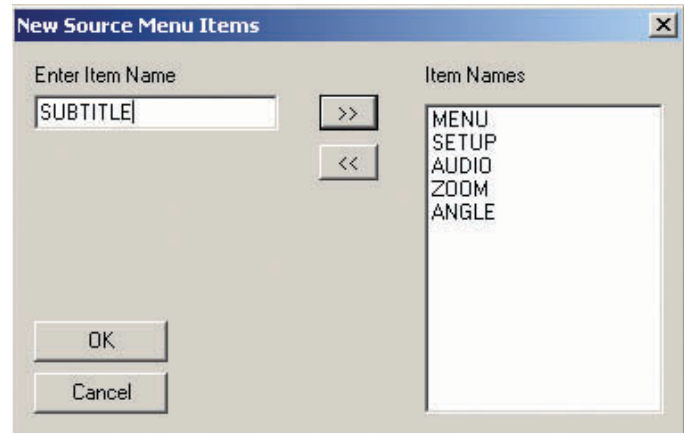

Figure 29
10. If adding **multiple Virtual Buttons**, right click inside the Virtual Button List Window, highlight and left click **Add Multiple New Menu Items**. In the New Source Menu Items Window, type in the first function name in the **Enter Item Name Block**. Either left click the **>> Button** or press the return key on the PC keyboard to add the function to the **Item Names List**. (Refer to **Figure 29**) To remove items from the 'Add New' list, highlight the entry and left click the **<< Button**. When all functions have been added to the Item Names List, left click **OK**. To remove items from the Virtual Button List, right click the item, then highlight and left click **Delete Item**.